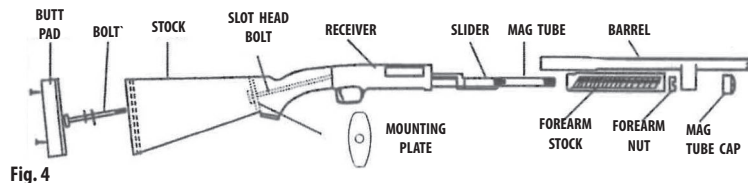

Fig. 4
2. Attach new replacement stock in reverse manner utilizing a socket wrench, long extension, and appropriate-size socket. Insert mounting bolt with washers (Fig. 3) through the supplied mounting plate (Fig. 4), carefully thread bolt into receiver, and tighten bolt with a moderate degree of torque. Note: For correct stock installation, utilize all related bolts, washers, and/or spacers removed from original factory-installed stock. Refer to the Figures 2, 3, and 4.